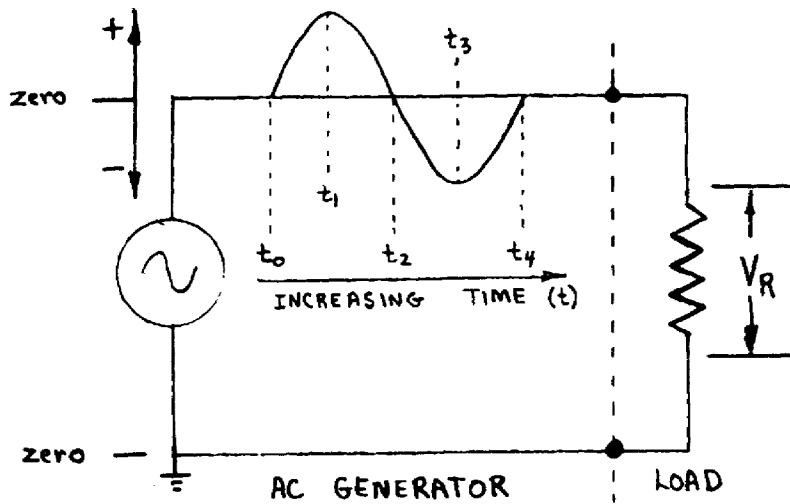
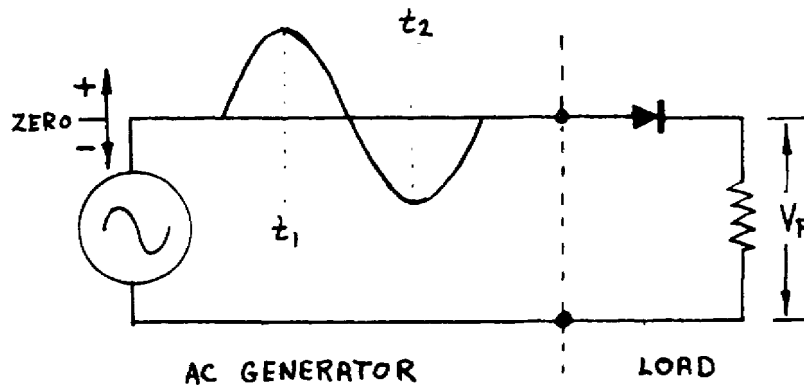

Figure 27. AC voltage.
Figure 28. Half-wave rectifier.
b. Figure 27 shows an AC potential being applied to a resistor. This voltage potential forces an electron current through the resistor. The current through the resistor allows the voltage to be developed across the resistor.
(1) At time (t_1) the voltage with respect to ground will be positive (+) and an electron current will be flowing upward through the resistor.
(2) At time (t_3) the voltage with respect to ground will be negative (-) and an electron current will be flowing downward through the resistor.
(3) Here we can see that the direction of the voltage is controlling the direction of electron current through the resistor. So the current first flows in an upward direction; then, as time passes, it reverses. It alternates once each cycle or revolution of the rotor.
d. Figure 28 shows an AC potential being applied to a resistor and diode connected in series. Since the voltage potential is alternating above and below ground or zero potential, the diode will experience times of forward bias at (t_1) and reverse bias at (t_2). The diode becomes forward biased any time after the voltage potential leaves zero and goes positive. The diode becomes reverse biased any time after the voltage potential leaves zero and goes negative.